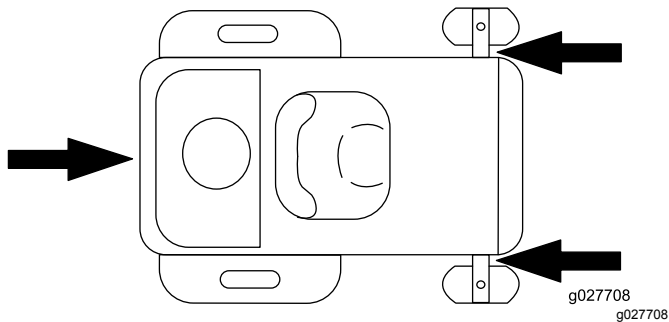

Figure 32
6. Tie down the machine near the front caster wheels and the rear bumper with straps, chains, cable, or ropes (Figure 32). Refer to local regulations for tie-down requirements.